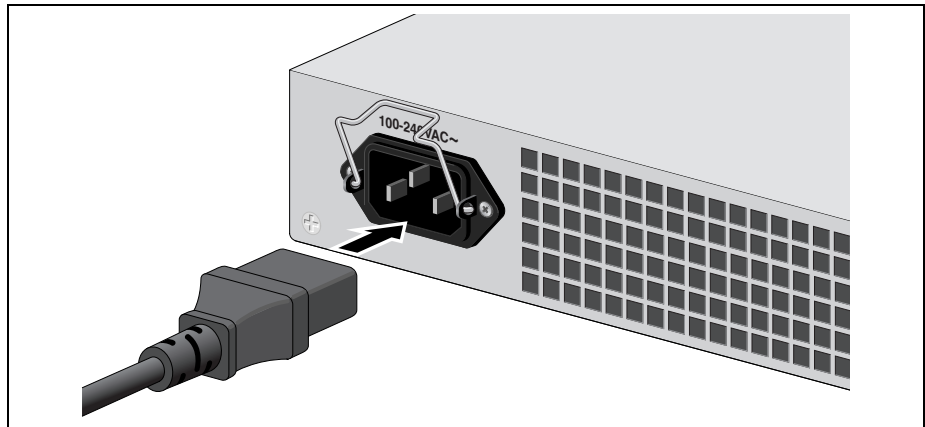

Figure 18. Connecting the AC Power Cord
2. Plug the power cord into the AC power connector on the back panel of the unit (see Figure 18).